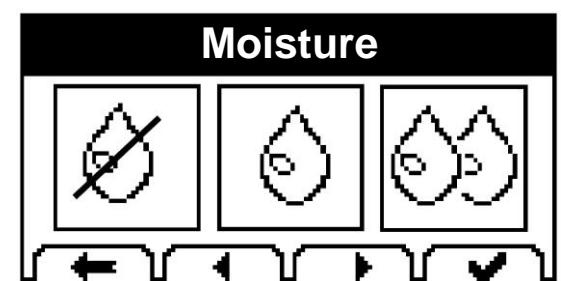

Fig. 5.5
- If the length of the drying period has been selected by **setting the moisture level**, select the desired final moisture level (Fig. 5.5):